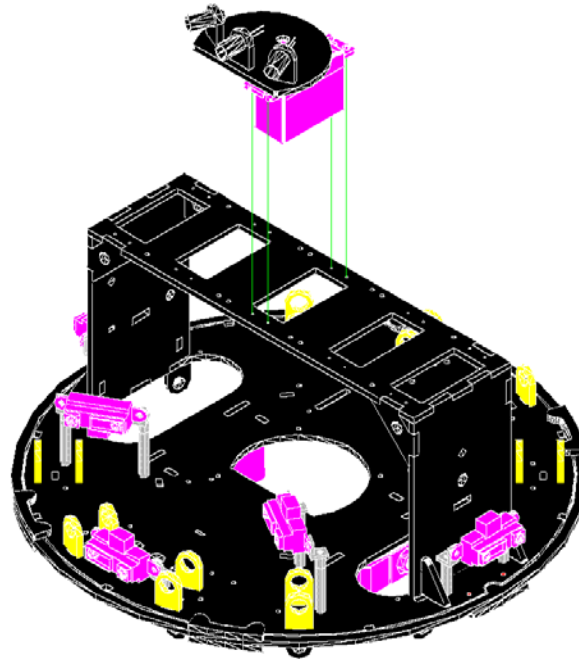

Figure 34. Slip the *Sensor Head* servo through the center servo opening on the *Bridge* and fasten with four ½ inch screws and nuts.
1. (Figure 34) The *Pan Sensor Head* assembly inserts into the center opening on the *Bridge*.